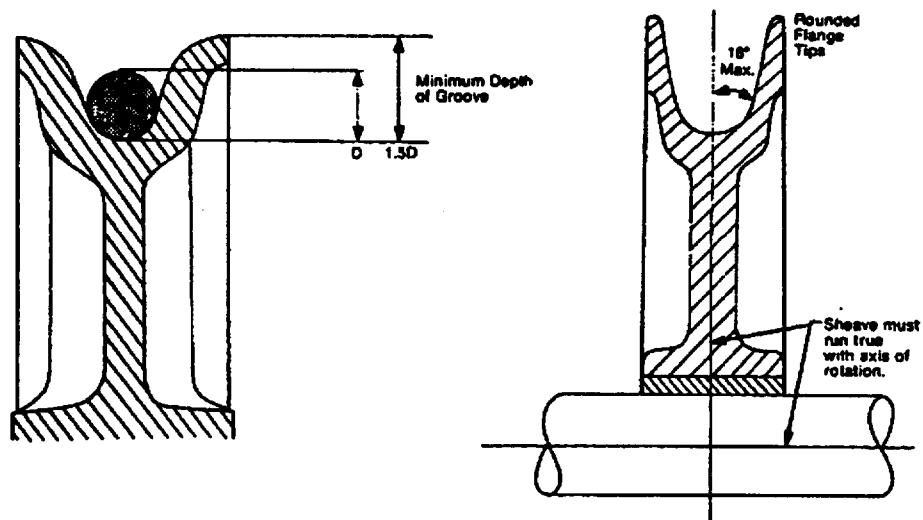

Fig. 2-18 Sheave groove dimension
- a Grooves in sheaves should always be larger than the actual diameter of the wire. Inspect the sheaves bi-annually and each time a new wire rope is installed. The sheaves must be inspected for proper support of the rope, cracks, and scoring. The proper support is determined with a sheave gauge. Use a "no-go" sheave gauge to determine if the proper support is supplied by the sheave. Proper support range is 135 to 150 degrees of support. (See **Figure 2-18.**) If the sheave has worn too narrow for the rope, then the tension on the rope will pull the rope into the groove causing it to be pinched and subject to significant wear. If the sheave groove has become too large the rope will flatten, which causes severe bending stress and fatigue failure.